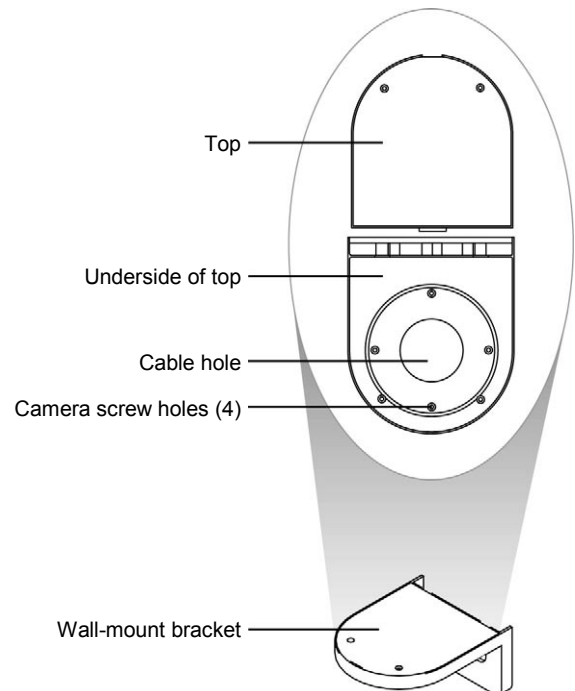

Figure 4. Top of wall-mount bracket
- 4) With a screwdriver, remove the top of the wall-mount bracket (see Figure 4).
- 5) On the underside of the wall-mount bracket, screw the two provided 3.5x10 mm (brass) screws halfway into the holes that correspond with your camera (see Figure 4).
- 7) From the underside of the wall-mount bracket, feed the camera cables through the cable hole (see Figure 4).